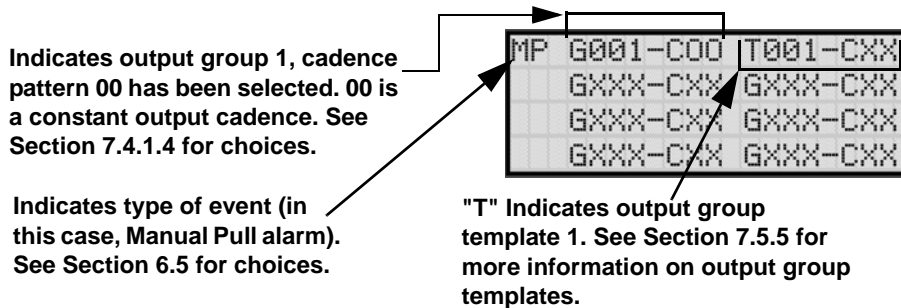

Figure 7-3 Selecting Output Groups/templates and Cadence Patterns for a Zone Event
6. From the next screen, a list of 8 event types will display. Select the event type you want to program. A screen similar to the one shown in Figure 7-3 will display. Press .
- Select options for each event that could occur in this zone. Figure 7-3 is a complete example of how you might map a zone.